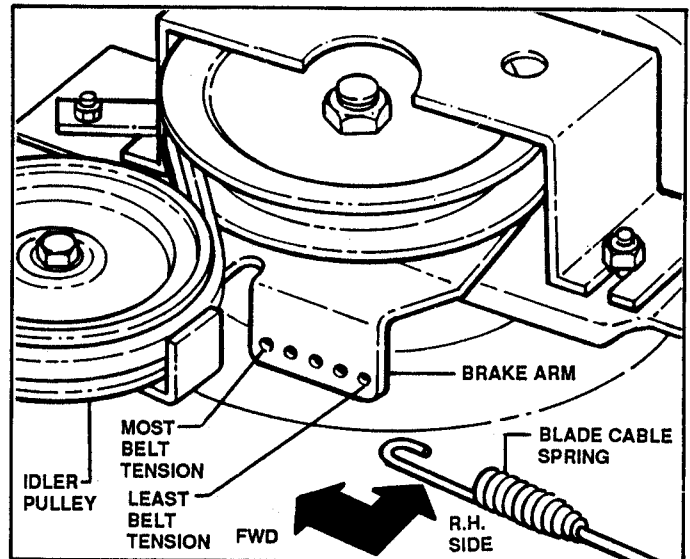

FIGURE 20
3. Remove BLADE CABLE SPRING from hole in BRAKE ARM. Reattach spring in next hole forward. See Figure 20.